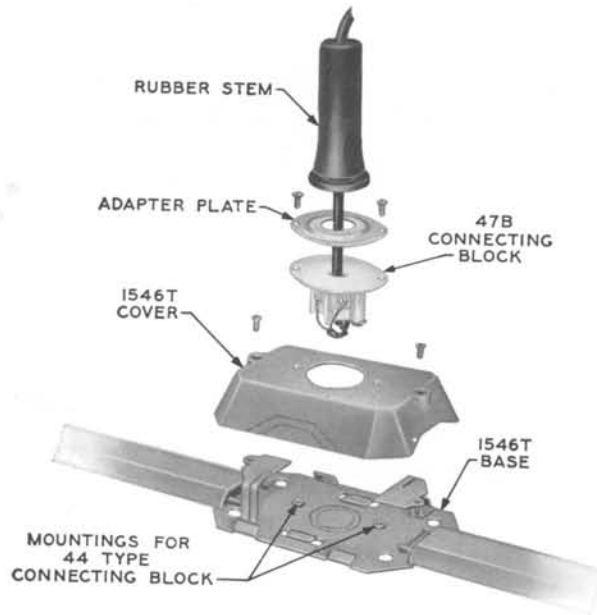

FIG. 14—1546T TELEPHONE OUTLET
- Fig. 14 shows the assembly of 1546T telephone outlet which is used with the 47B or 44-type connecting block.